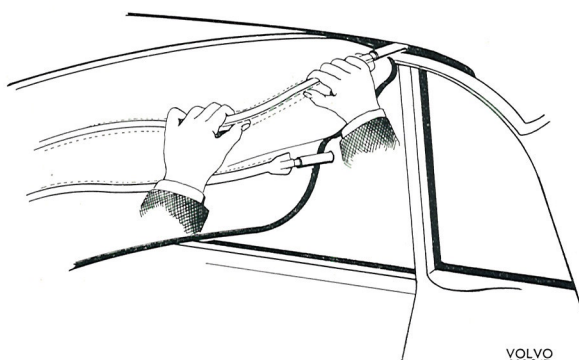

Fig. 8-61. Removing roof stretchers
4. Take down the stretchers beginning from the back by bending them down in the middle and releasing them from the edge of the roof as shown in Fig. 8-61.